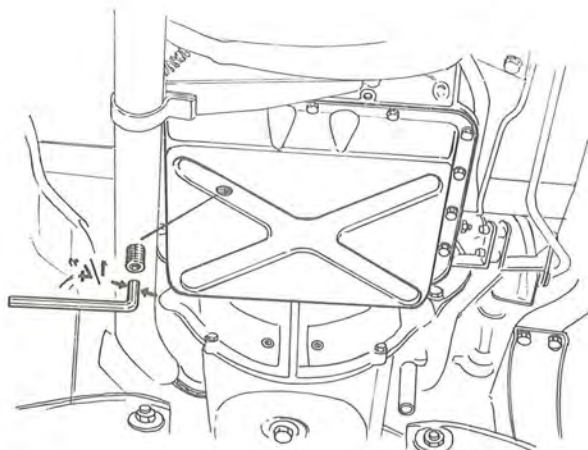

Fig. 4-76. Oil drain plug
1. Jack up and place blocks under the vehicle. Drain off the oil into a vessel which is absolutely clean. See Fig. 4-76.
2. Drain the oil into a clean container, see Fig. 4-76.